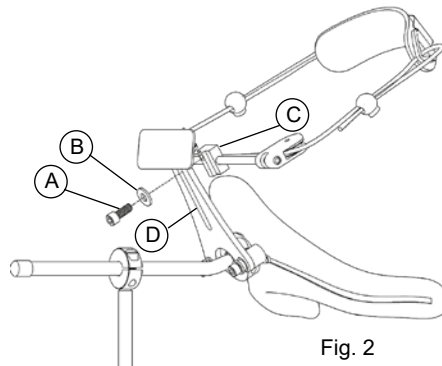

Fig. 2
Single Sub-occipital Base Plate Assembly Attachment (Fig. 2)
3. Refer to Fig. 2. Remove bolt (Fig. 2, A) and washer (Fig. 2, B) from anterior support mount (Fig. 2, C).
4. Align bolt (Fig. 2, A) and washer (Fig. 2, B) through the anterior support adapter bracket slot (Fig. 2, D) clamping the anterior support option in place.